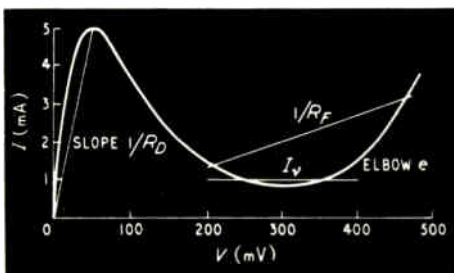

Fig. 21. JK20A tunnel diode characteristic and linear approximations
THE relative inefficiency of the tunnel diode characteristic is illustrated in Fig. 12. Analysis of tunnel diode circuits must account for these departures from the ideal switch. Fig. 21 shows a typical tunnel diode characteristic (JK20A, $I_p = 5$ mA) with the equivalent circuit characteristic chosen. Figs. 22 and 23 show two types of equivalent circuit. They are used respectively when the operating point of the tunnel diode works above or below the elbow 'e' in Fig. 21. Stray reactive effects in the tunnel diode and associated circuitry will be ignored in the a.c. treatment of the multivibrator.
The tunnel diode used in this example is the STC JK20A. It has the parameters shown in Figs. 21, 22 and 23:
In order to reduce the deleterious effects of exceeding the elbow 'e' in Fig. 21, the value of I is kept as low as possible. From Fig. 35, which gives the overall $V-I$ characteristic of the actual multivibrator, a value for I of 6.4 mA will keep both diodes in the '1' state under d.c. conditions, which is necessary for oscillation, and is well below the limit in expression (15).
Again, it is assumed that the multivibrator has reached a steady-state oscillation. In this circuit, the transient voltages across the tunnel diode can never substantially exceed the supply voltage due to the low impedances of the supply and R_D . The operating point can therefore be kept below the elbow 'e' in Fig. 21. This is desirable, because the current through the tunnel diode when in the '1' condition is then kept to a minimum. The equivalent circuit for this type of operation is shown in Fig. 23, where R_F in Fig. 22 is replaced by a passive constant-current device passing a current I_v .
The analysis assumes that the operating point lies below the elbow 'e' in Fig. 21. In the multivibrator, while one tunnel diode is in the '0' condition, the other tunnel diode has virtually the whole of the supply voltage across it. From Fig. 21, the supply voltage must therefore be less than 400 mV. Now for astability the d.c. supply must be capable of keeping both tunnel diodes in the '1' condition. Fig. 35 (Part 4) shows that the supply voltage required for this condition is reduced as the load resistance is reduced. However, to control the timing of the multivibrator by the load rather than by the tunnel diode parameters, from equation (17)